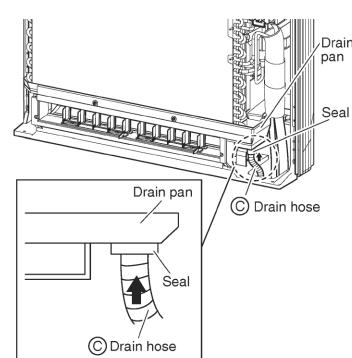

Fig. 2
- Insert the (C) drain hose into the socket of the drain pan. (See Fig. 2)